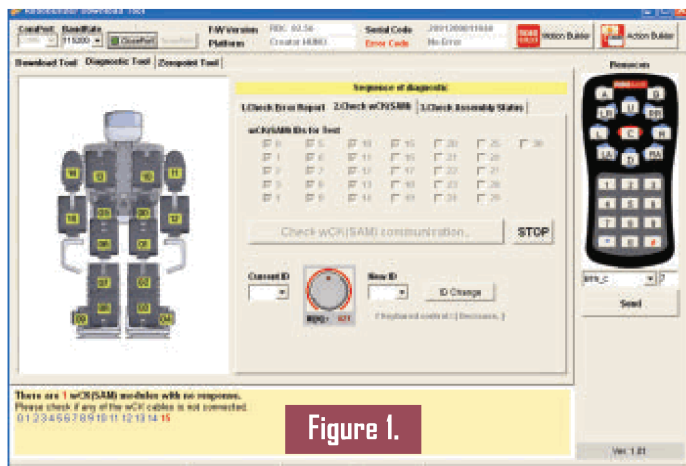

Figure 1.
A. It sounds like your controller is working at least well enough to talk to the computer, so let's try the RoboBuilder troubleshooting tools. Launch the RoboBuilder Download Tool and connect it to your RoboBuilder controller. Click on the Diagnostic Tool tab near the top left of the program window. Then, click on the tab labeled "2. Check wCK(SAM)." You should see your Huno robot with all of its servos labeled on the left side of the program window. At the bottom of the program window, you will see the servos listed from lowest to highest, repeatedly (see **Figure 1**). I am willing to bet that at least one of the Huno servos fail. This means that your program — expecting the 16 Huno